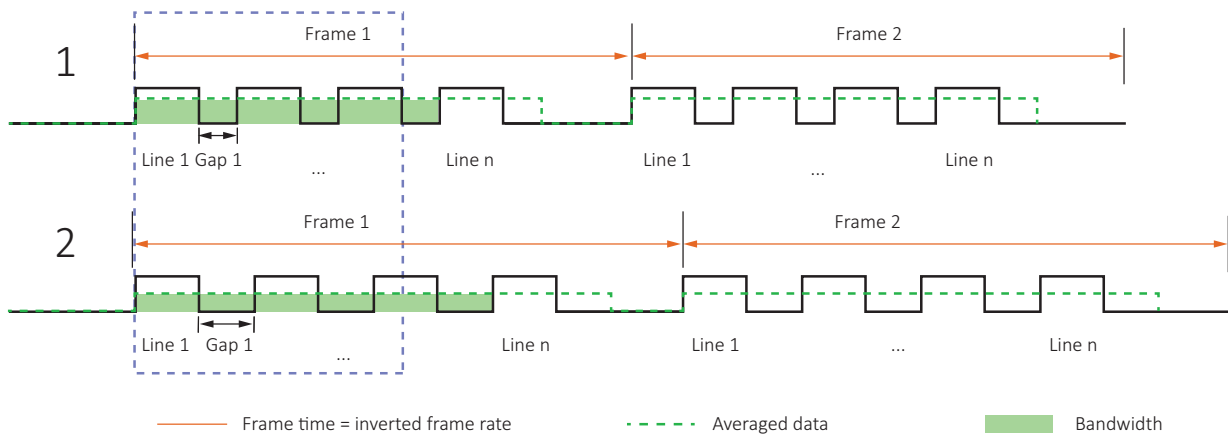

Figure 66: Sensor data output and camera data output
Figure 66 shows the bandwidth for a higher (1) and a lower (2) value for `DeviceLinkThroughputLimit`.